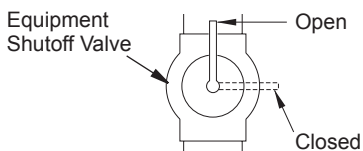

Figure 14 - Equipment Shutoff Valve
1. Close equipment shutoff valve (see Figure 14).
1. Open equipment shutoff valve (see Figure 14, page 14).
2. Close equipment shutoff valve (see Figure 14, page 14).